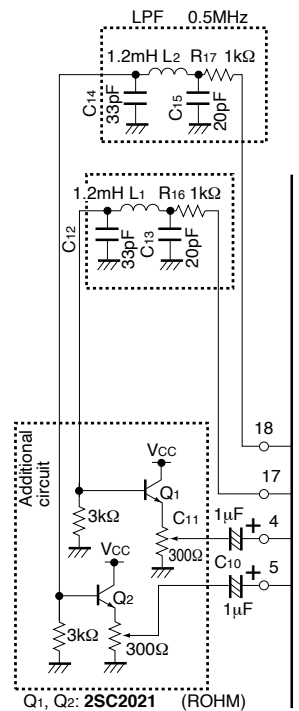

Fig. 15
- (2) The VCXO remains in a free-running state except during superimposition.
- (4) Pin 4 (B-Y_{IN}) and pin 5 (R-Y_{IN}) have high impedance and are susceptible to the effects of noise and other external factors during pattern generation. For this reason, we recommend adding the circuit in Fig. 15 to lower the input impedance. Adding this circuit can also reduce carrier leakage.